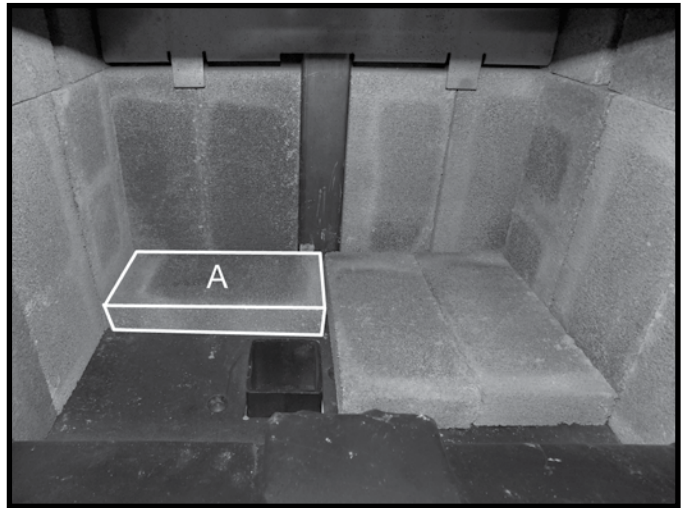

Figure 32: Third floor brick in place.
9. Place a third "A" firebrick against the rear wall as shown in Figure 32.